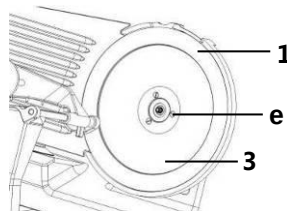

Fig. 13
- In order to remove the knife loosen three adjustment screws (e) with use of appropriate screwdriver (fig. 13) and carefully take the knife away.
- Wash the knife cover (3) and knife (1) with warm water and neutral cleaning agent. Use the sponge, supplied cleaning brush or soft cloth. Rinse in clean water.